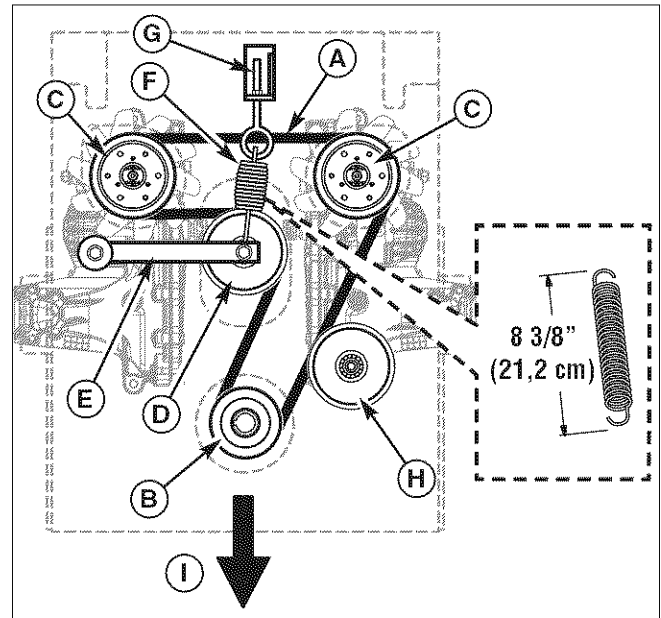

Figure 38. Hydraulic Pump Drive Belt Replacement
4. Loosen the nut on the spring anchor eyebolt (G, Figure 38) to release the majority of the belt tension. Use caution and remove the nut to completely release the tension.
6. Reinstall the spring anchor eyebolt (G) into the anchor tab and loosely fasten the nut. Adjust the anchor eyebolt until a measurement of 8-3/8" (21,2 cm) is achieved from the outside of the spring hooks. Tighten nut.